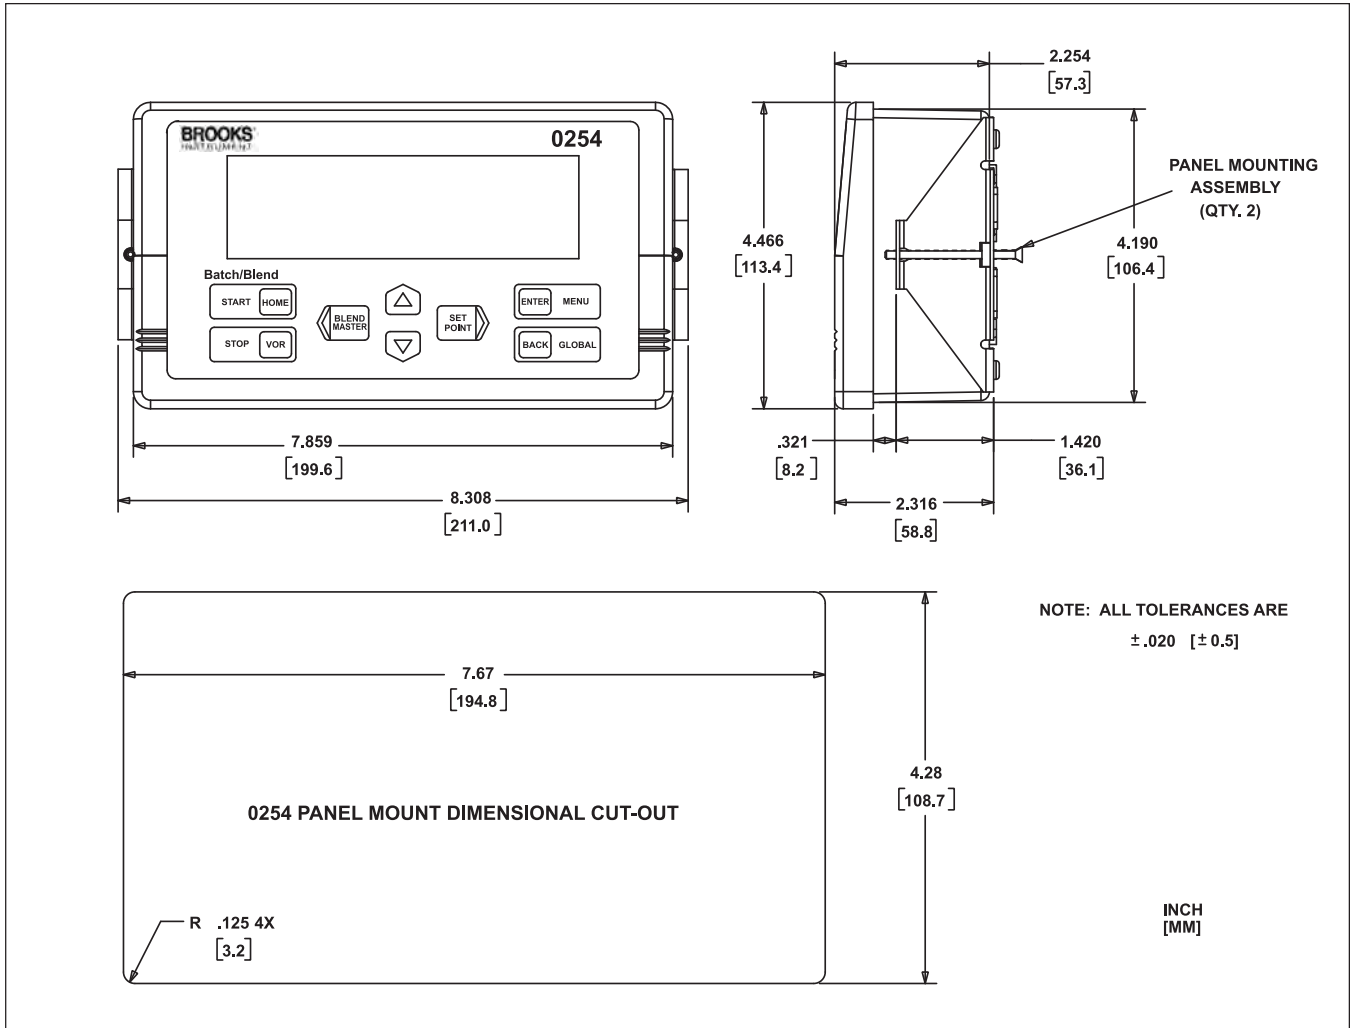

Figure 2-1 Panel Mount Cut-Out Dimensions
1. Cut a hole according to the cut-out dimensions shown in Figure 2-1 on p. 2-4.